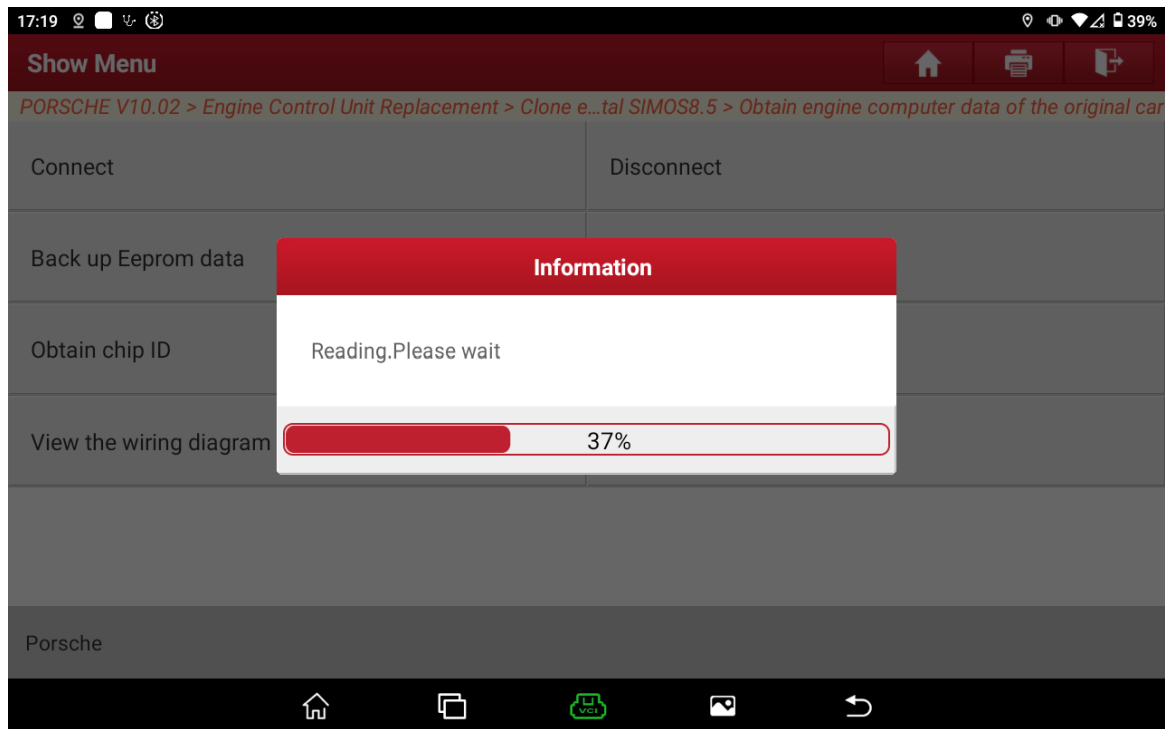
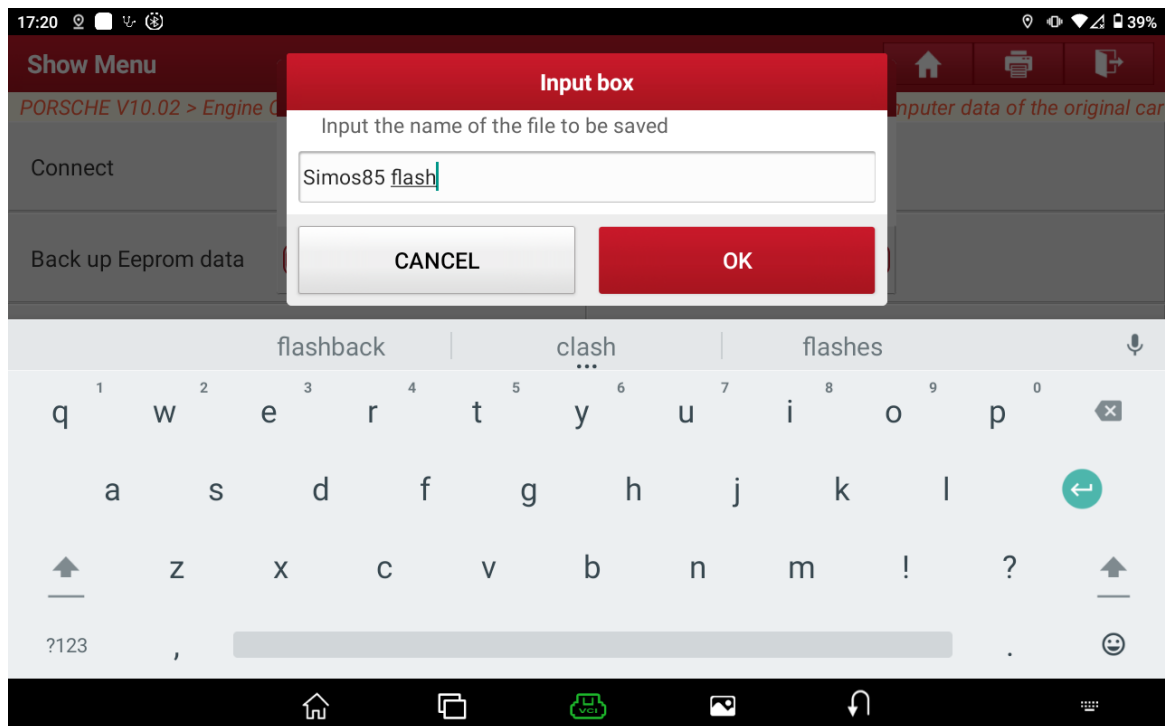
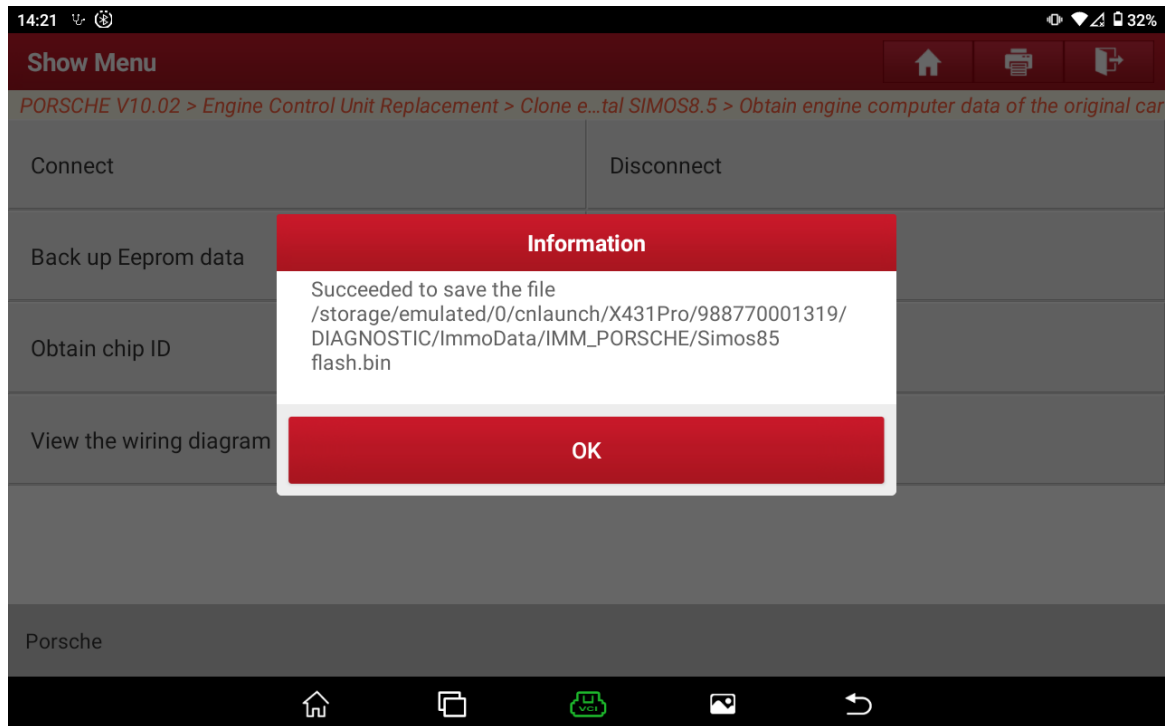

Figure 9
Figure 10
Figure 11
- 7. Choose [Back up Flash Data], input the name of the file to be saved, and save the Flash data, as shown in Figure 9, Figure 10, and Figure 11. The Flash data is large and takes a long time. Please wait patiently.